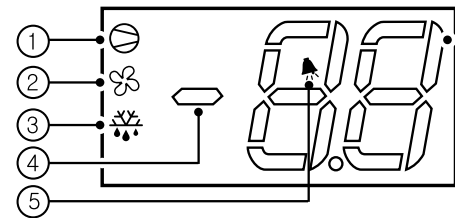

Fig 7-1
7.2 Display LED Symbols.(Fig 7-1)
- ①, : ON if compressor output is ON.
- ②, : ON if evaporator fan is in operation.
- ③, : ON if manual and electric defrost is in operation.
- ④, : ON if temperature is displayed (-99 ~ 99℃).
- ⑤, : Alarm in progress.